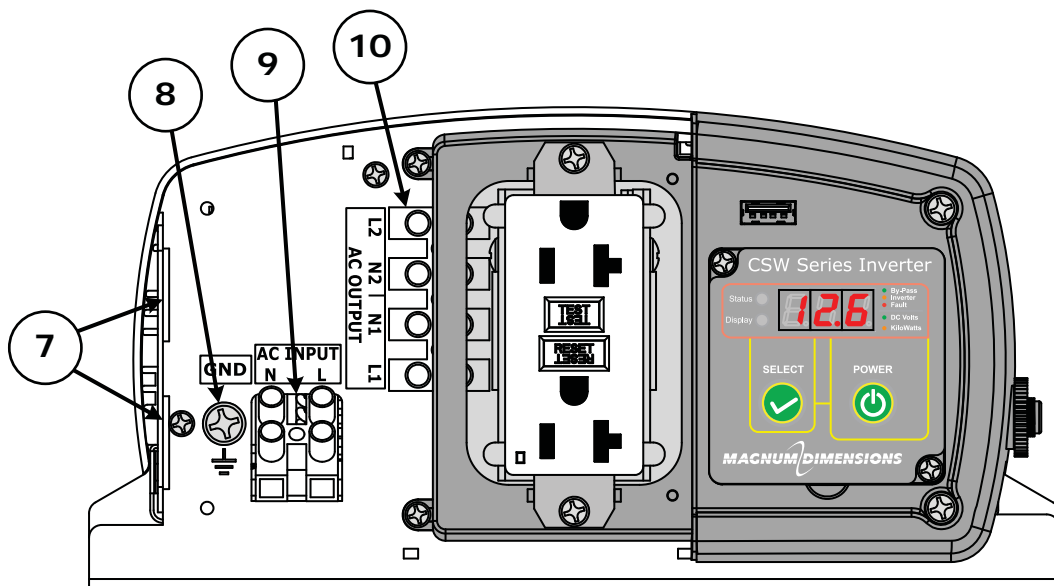

Figure 1-2, Front Panel Features (Cover Removed)
1. **AC Wiring Access Cover** – when this cover is removed, it provides access to the AC wiring terminals used to hardwire all inverter AC input and output wiring (see Figure 1-2). Remove four screws to remove the access cover.
The following front panel features are available on the CSW2012-X inverter when the access cover is removed (See Figure 1-2):